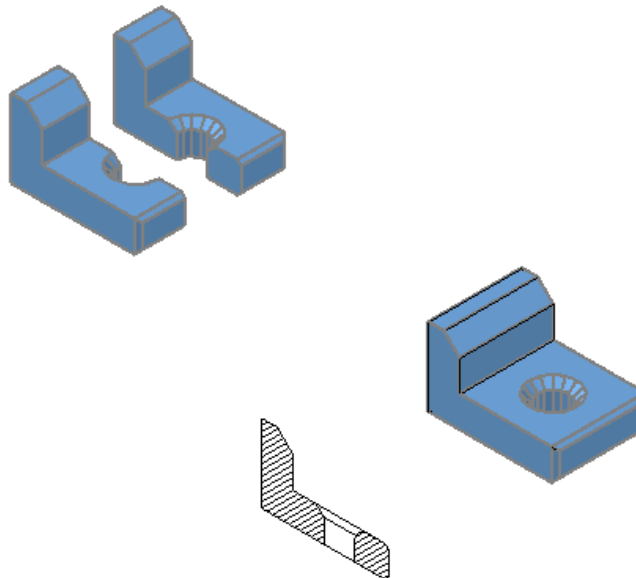

Figure Step 14
Step 14 Your drawing should now appear similar to the figure. (Figure Step 14)